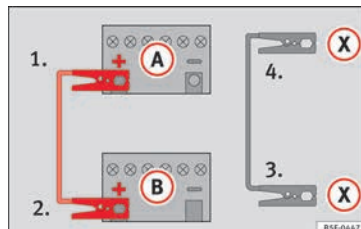

Fig. 79 Diagram of connections for vehicles with Start Stop system
– For vehicles with Start-Stop system: connect one end of the **black** jump lead **(X)** to a suitable ground terminal, to a solid piece of metal in the engine block, or to the engine block itself » **Fig. 79**.